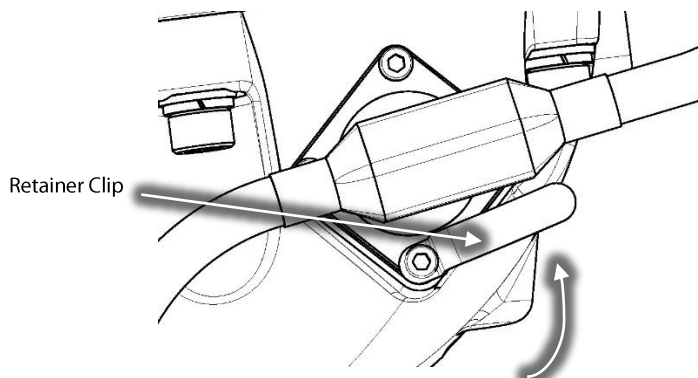

Figure 27 – Retainer Clip Rotation
- Rotate the Retainer Clip until it is directly above the IGV Connector and torque the screw to 5 Nm (44 in.lb.). Refer to Figure 27 (Retainer Clip Rotation).